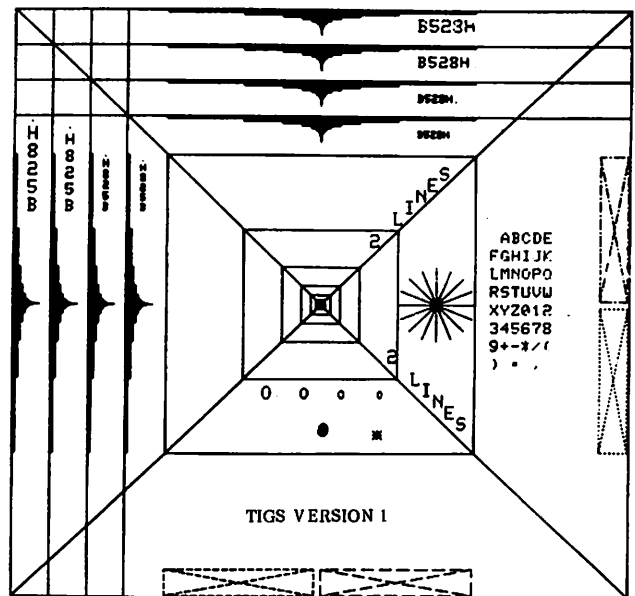
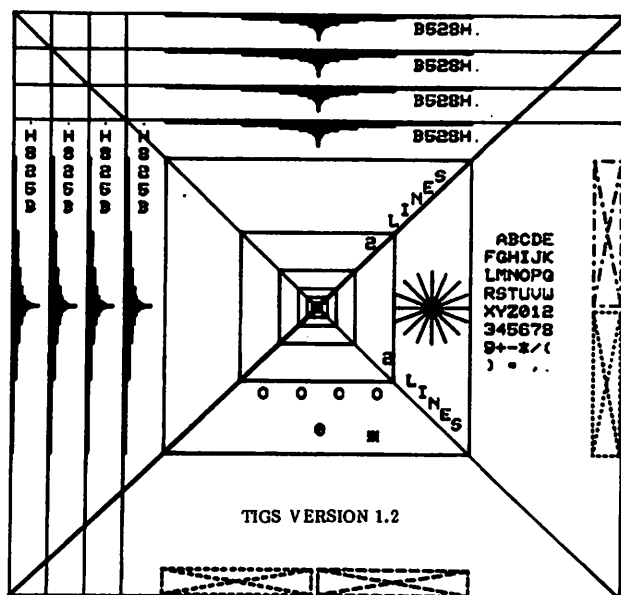

Figure 7-2. Figure Displayed on Terminal Types 4 through 9
Figure 7-3. Figure Displayed on Terminal Types 1, 2, or 3
11. The terminal screen will be cleared and figure 7-2 will be displayed if terminal type 4 through 9 was selected in step 7. Figure 7-3 will be displayed if terminal type 1, 2 or 3 was selected.